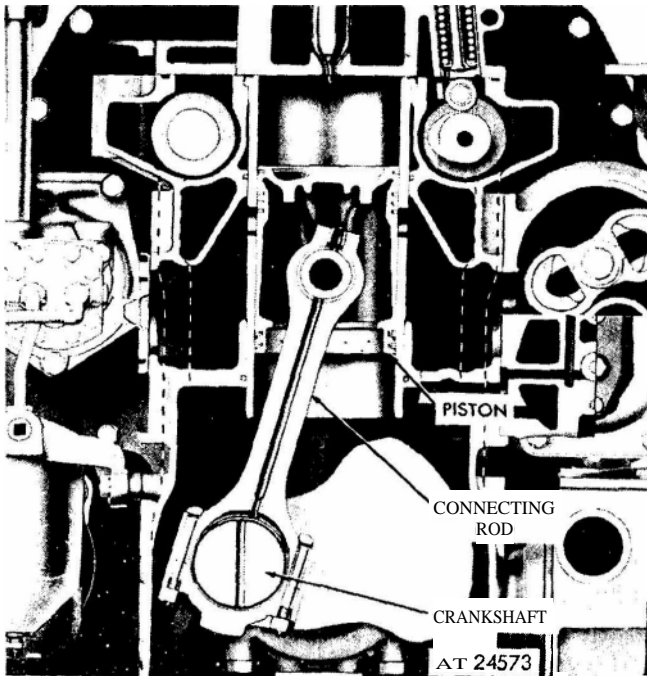
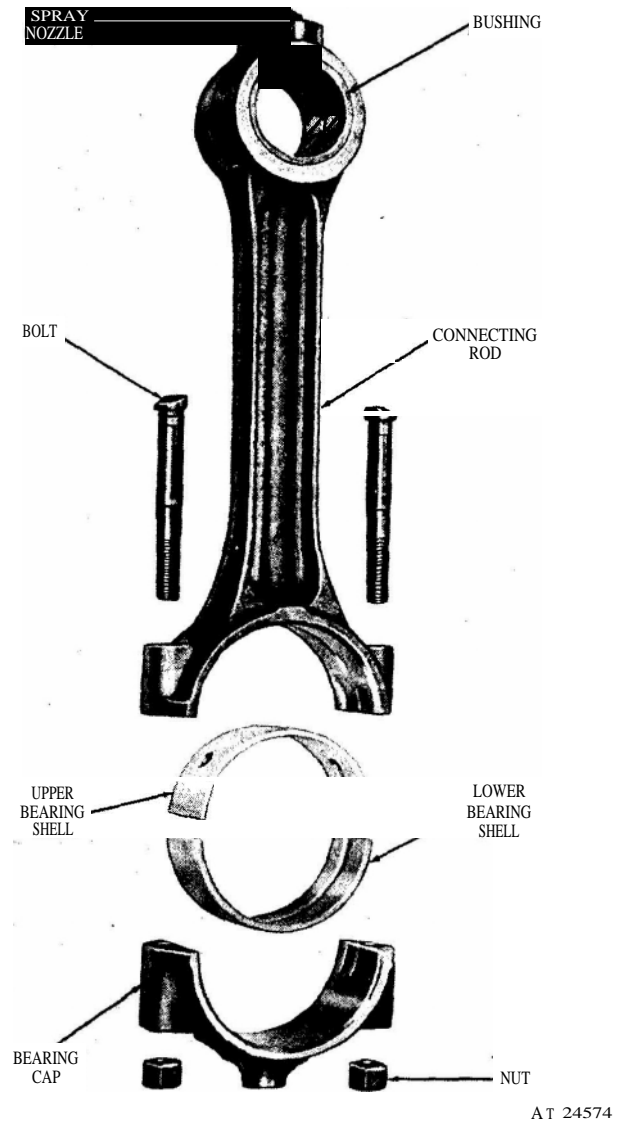

Figure 1. Connecting rod mounting.
Figure 2. Typical connecting rod details and relative location of parts.
With the connecting rod assembly inspected and assembled to the piston as outlined in section 1.6.1, refer to figure 1 for the proper location of the piston rings on the piston. Assemble the compression rings on the piston with tool J 8128, as shown in figure 2, and stagger the ring gaps around the piston. When installing the compression or oil control rings, do not spread the rings more than is necessary to slip them on the piston to avoid overstressing the rings.
1. Install a peripheral abutment expander in the upper oil ring groove (fig. 1), being careful not to overlap the ends.
Each connecting rod (figs. 1 and 2) is made of steel and forged to an "I" section with a closed hub at the tipper end and a cap at the **lower end**. The rod is drilled to provide lubrication to the piston pin at the upper end and is equipped with an oil spray nozzle for cooling the underside of the piston head. The connecting rod bearing shells are of the precision type without shim adjustments. The upper and lower connecting rod bearing shells are different and, therefore, are not interchangeable. A helically-grooved bushing is pressed into each side of the connecting rod at the upper end. A cavity of approximately $\frac{1}{8}$ " between the inner ends of these bushings, registering with the drilled oil passage in the connecting rod, forms a duct around the piston pin. A portion of the oil from this duct lubricates the piston pin and bushings, the remainder of the oil is forced out of the spray nozzle for piston cooling. The piston pin floats in both the piston and connecting rod bushings. Service connecting rod assemblies include the lower bearing cap, bolts, nuts, spray nozzle and the upper piston pin bushings pressed in place and bored to **size**. The bearing shells (upper and lower) are replaceable-without machining ; new piston pin bushings must be reamed after being pressed into the connecting rod. Bushing installation and reaming precedures are outlined on the following pages.